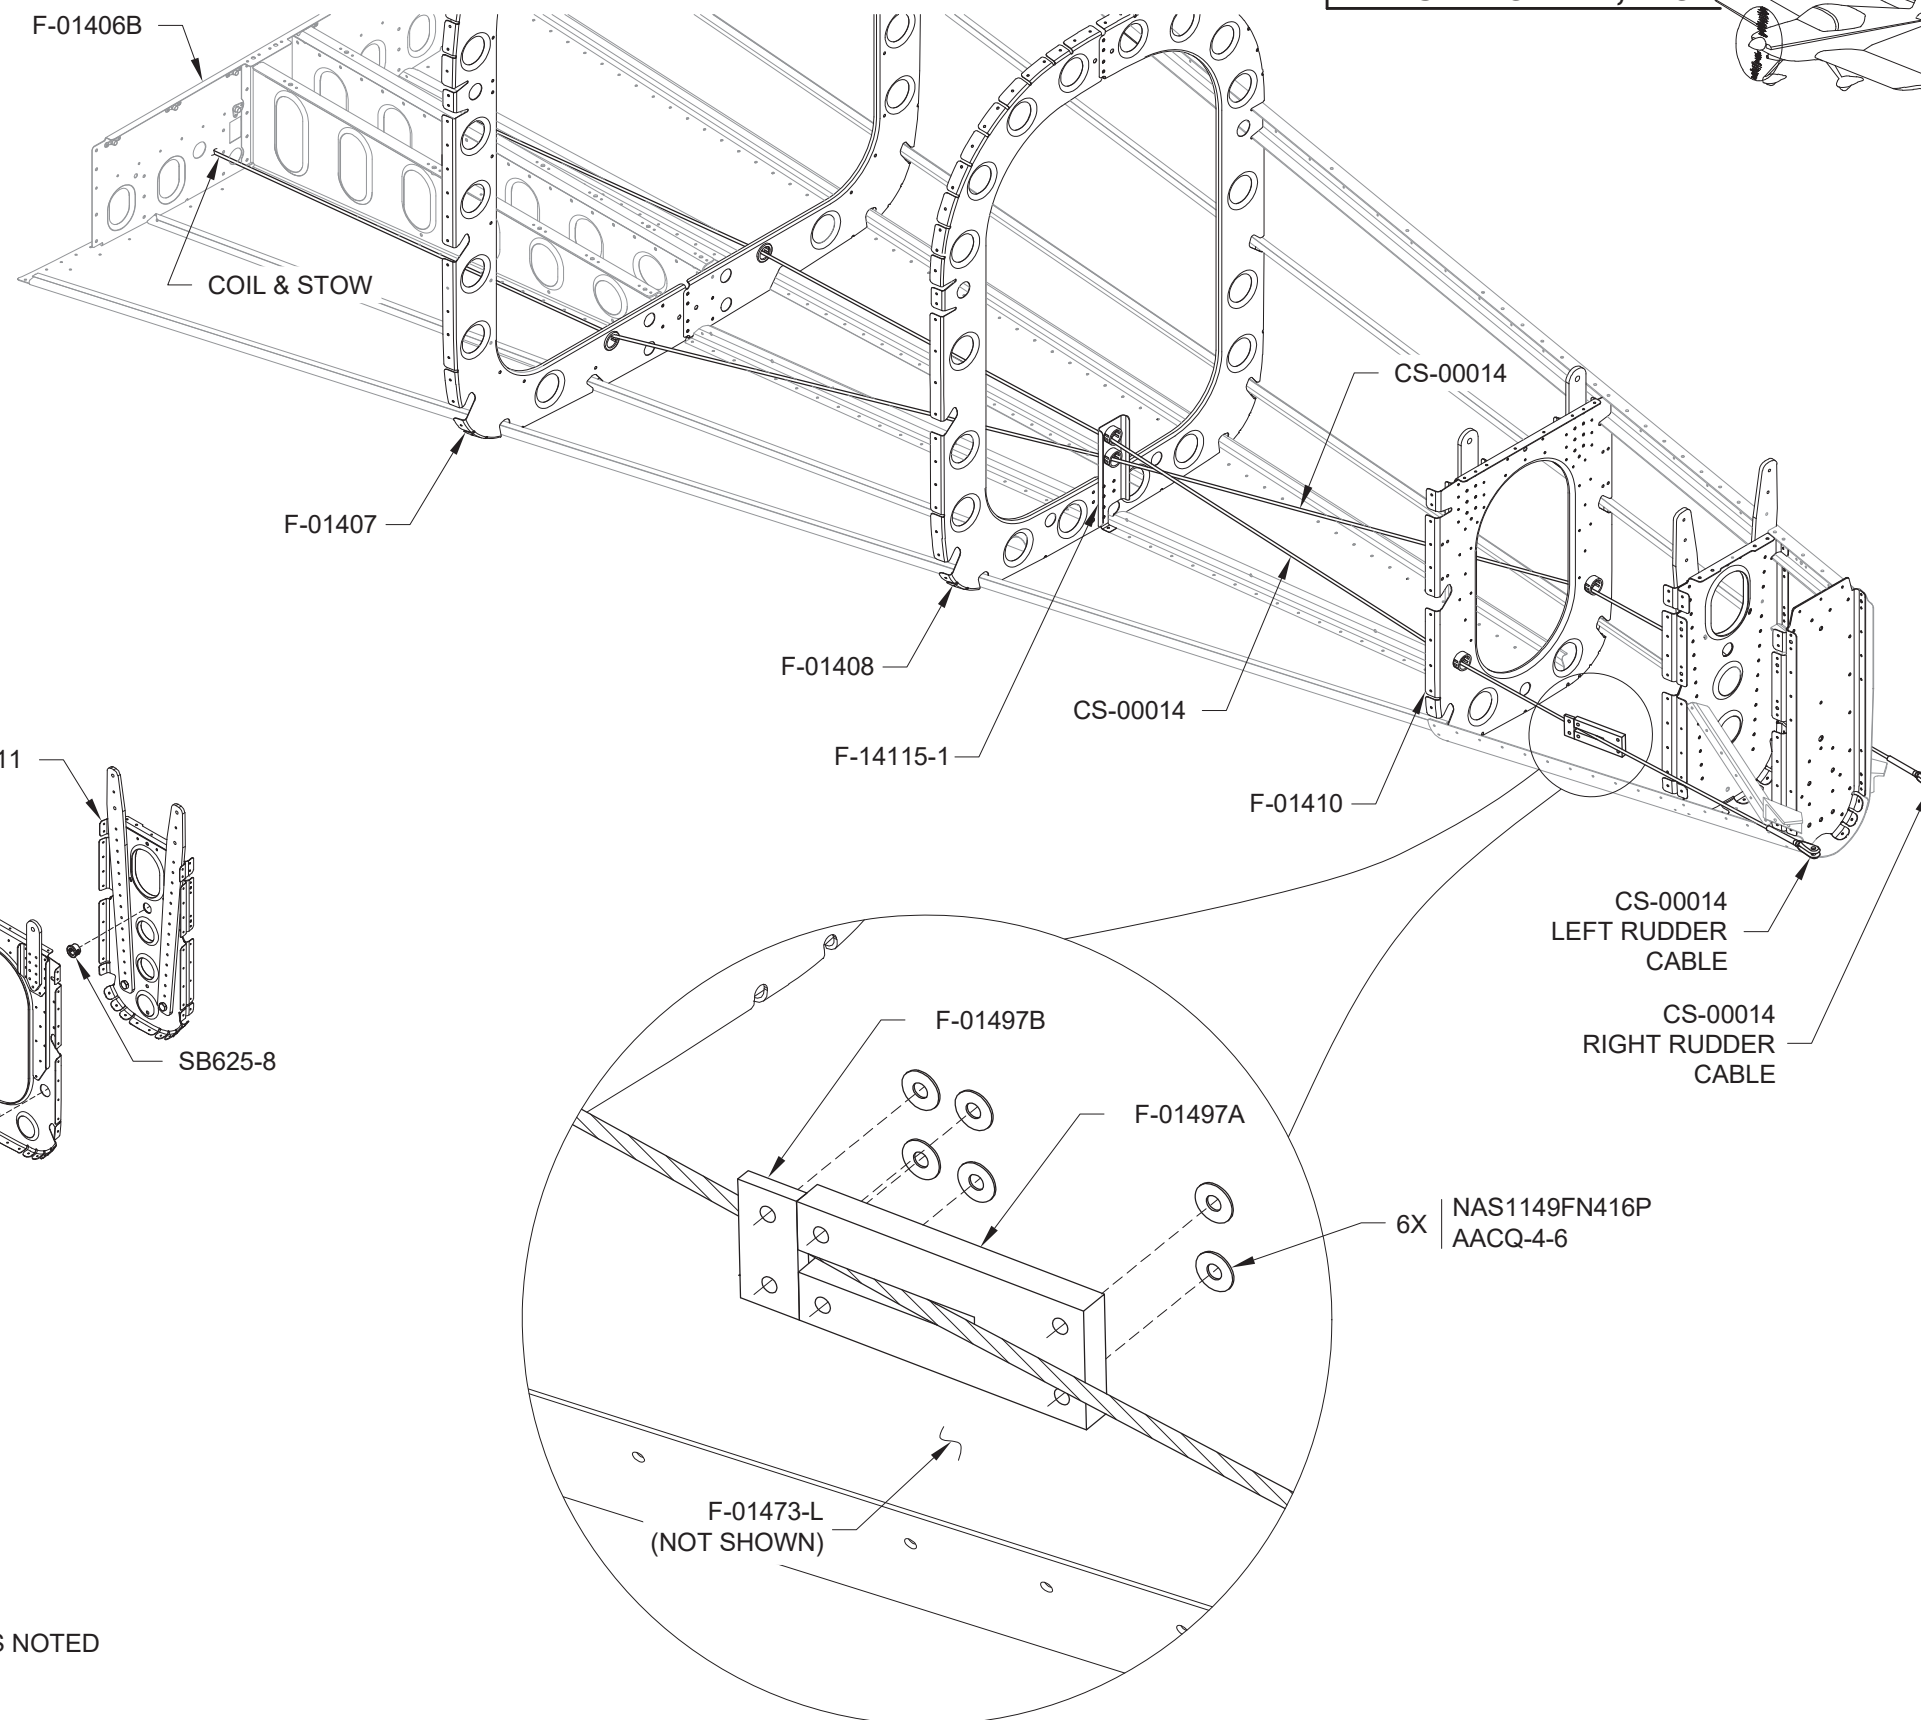

FIGURE 2: RUDDER CABLE INSTALLATION
Step 4: Rivet the F-01497A and F-01497B Cable Guides to the inside of the F-01473-L & -R Aft Fuse Side Skins as shown in Figure 2.